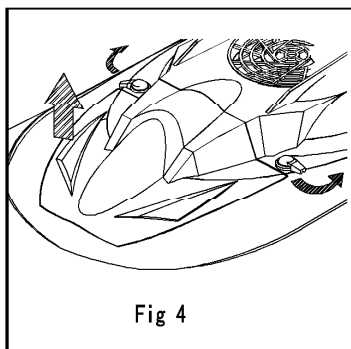

Fig 4
1. Turn red LATCHES on vehicle BATTERY DOOR, lift door up at rear and remove. (Figs.4)